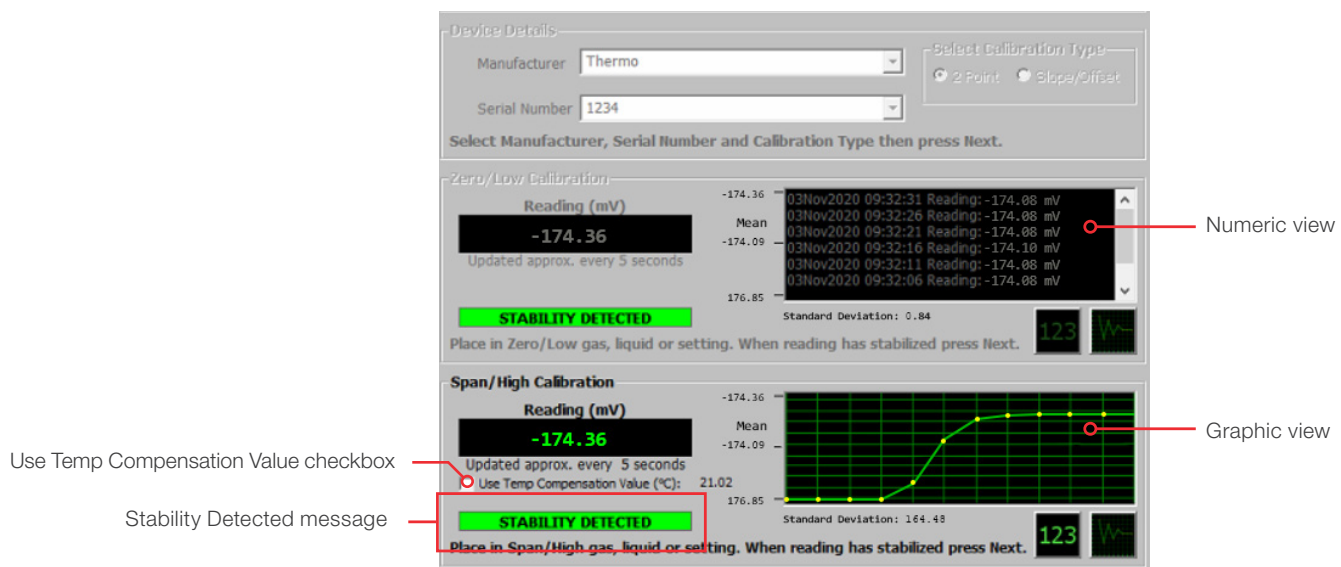

Figure 3.13. Stability Detected message for second calibration point.
- If you are using a probe that incorporates temperature measurement or a separate temperature probe/sensor, click the Use the **Temperature Compensation Value** check box (Figure 3.13). Place the temperature probe (if separate) in the buffer along with the pH probe, and the system will integrate the temperature reading from the probe.
- The display can be either numeric or graphic. Click a view button at the bottom right (See Figure 3.13) to change the display.